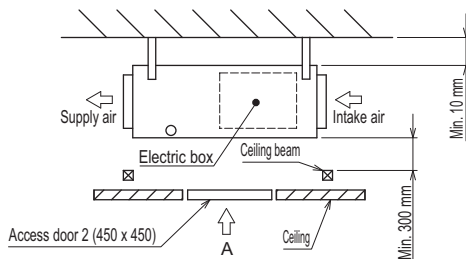

Fig. 1
- (1) When a space of 300 mm or more is available below the unit between the unit and the ceiling (Fig. 1)